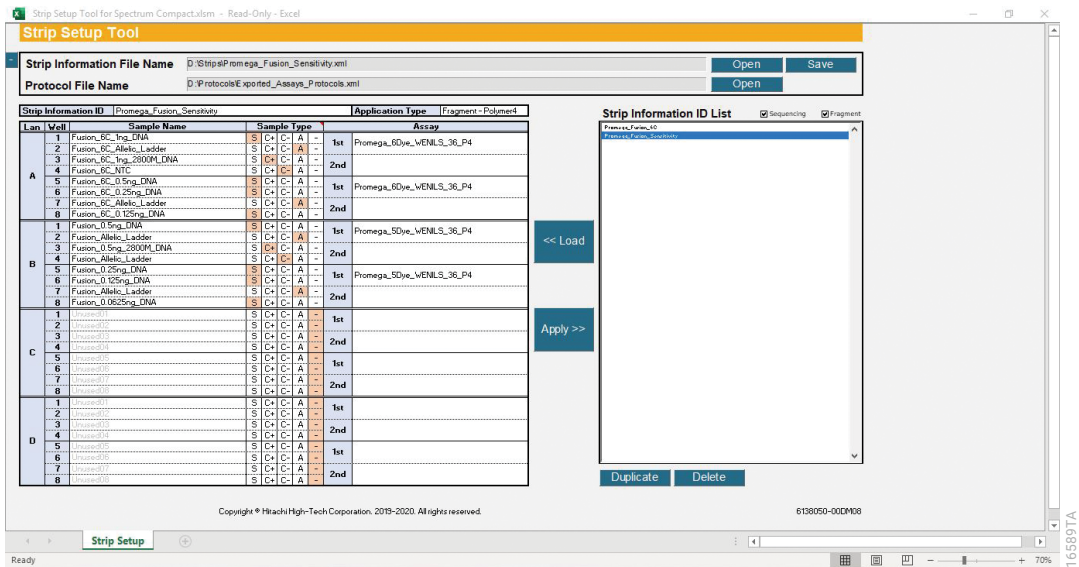

Figure 221. Strip Setup Tool for Spectrum Compact with new strip in Strip Information File Name.
- a. An asterisk appears in front of the newly created strip file name in the Strip Information ID List prior to saving the strip information as a .xml file. After saving as a .xml file, the asterisk disappears (Figure 221).
8. The name and location of the new strip will now appear in the Strip Information File Name cell (Figure 221).